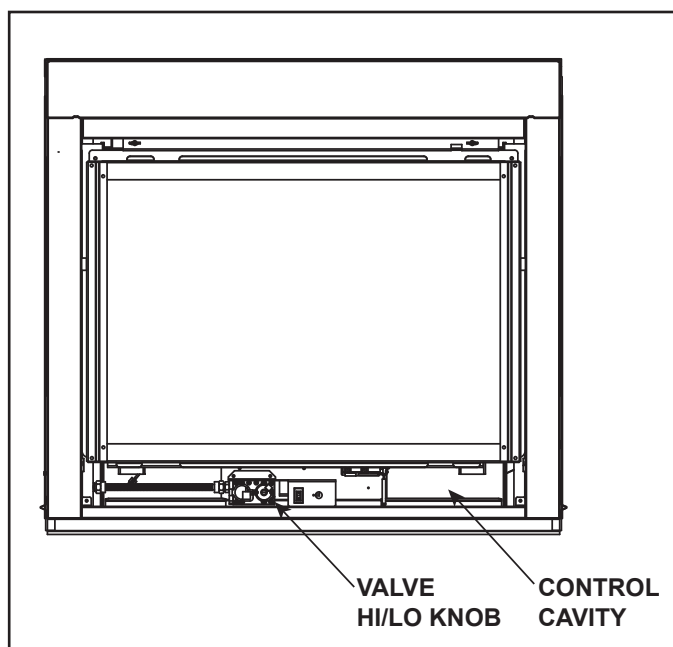

Figure 3.5 Control Cavity/Valve Location
The DV3732 and DV4236 model has a variable burn rate which is controlled by the HI/LO knob on the gas valve. Therefore the flame height is adjustable. The HI/LO knob is shown in Figure 3.5. It is located in the control cavity of the appliance. The HI/LO knob may be adjusted as desired by turning counterclockwise to the HIGH position and by turning clockwise to the LO position.
The IntelliFire intermittent pilot ignition system comes with a battery backup system that enables the system to operate in a power outage. A factory-installed battery pack is located in the control cavity of the appliance. See Figure 3.5. Batteries should not be placed in the battery tray while using electrical power to operate the fireplace. Remove batteries from battery tray when power has been restored.
1. Access the control cavity of the appliance. See Figure 3.5 for location. The decorative front may need to be removed.